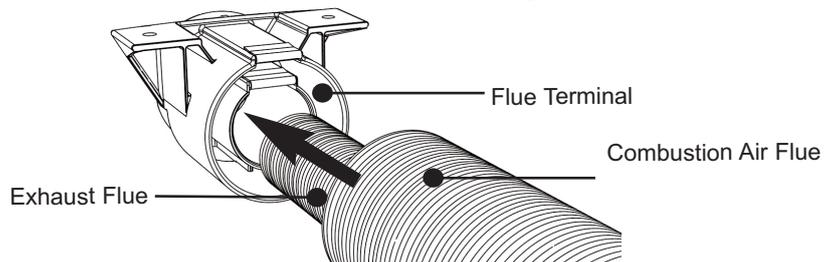

Fig. 23A Attaching Flue to the Flue Terminal
- iii. Push the exhaust flue into the rear of the flue terminal (fitted to the vehicle floor) until it will go no further (approx 50mm). The flue **must be** pushed fully home. Please see Fig. 23A, B and C.